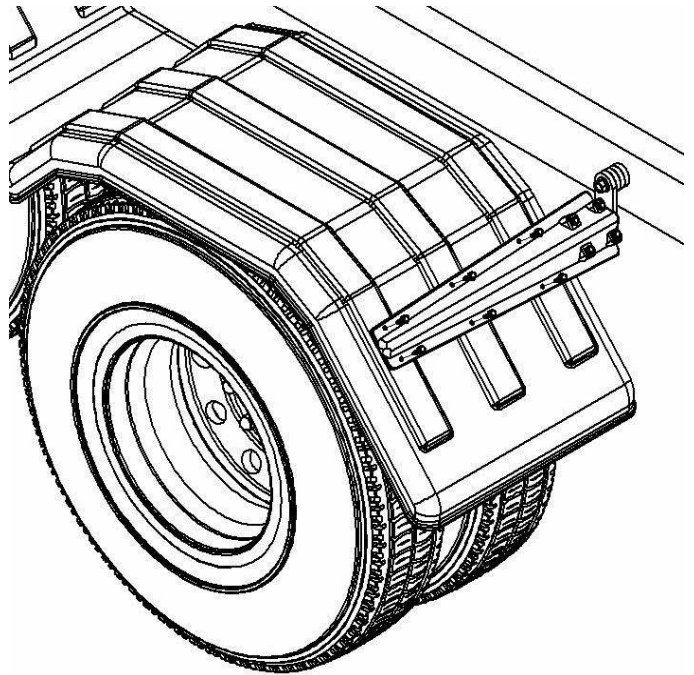

Figure 13
- e. Make sure the fenders are square and aligned (Figure 13). Twists or bows in the fender will fatigue the material over time.